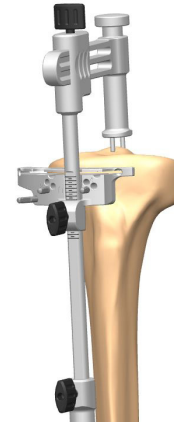

Figure 100
1. With the Adjustable Tibia Stylus set to the desired resection level, using non-headed 65mm pins, pin the cutting guide in position through the holes marked '0.' For additional fixation, a headed or non-headed 65mm pin can be inserted through the oblique pin hole (Figure 100).